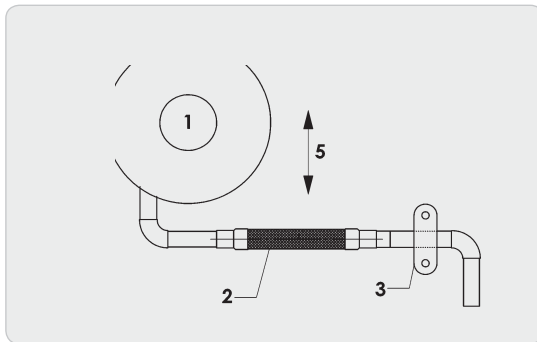

FIG. 1 SINGLE SYSTEM
3. Vibration eliminators should be installed perpendicular to the direction of vibration. When vibration exists in two planes, two vibration eliminators should be used. Refer to Figs 1 and 2.